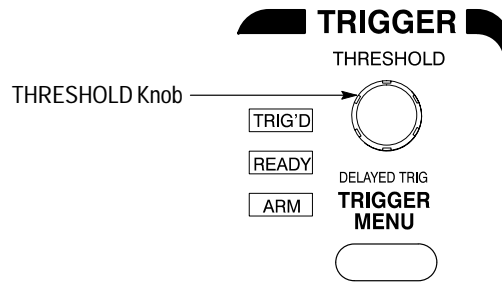

Figure 1-11: TRIGGER Controls
2. To create an unstable display, slowly turn the trigger **THRESHOLD** knob (see Figure 1-11) first one direction, and then the other. Observe what happens when you move the trigger threshold level above the highest part of the displayed waveform. Leave the trigger threshold so the display remains untriggered.